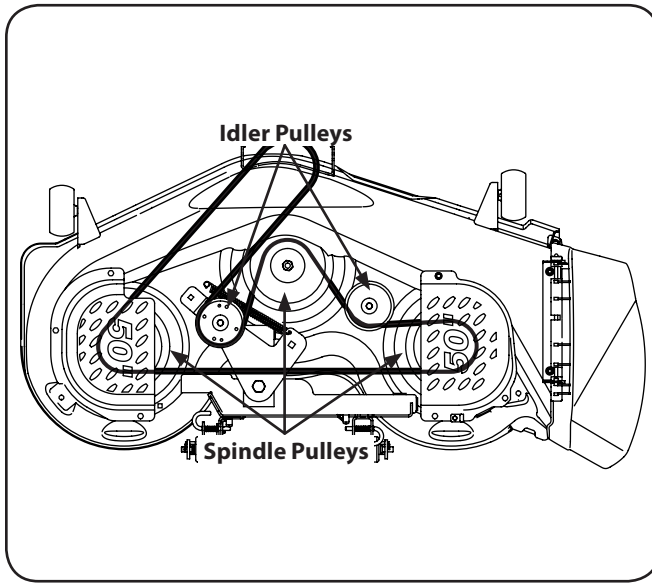

Figure 7-5
- Route the deck belt around the spindle pulleys and idler pulleys as shown in Fig. 7-5.